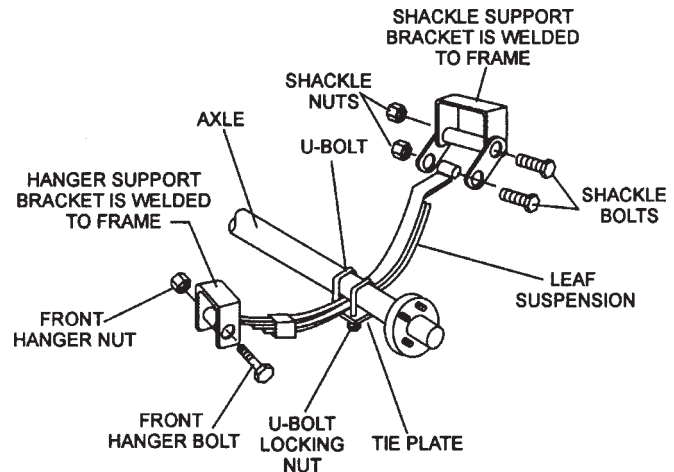

Figure 59. Major Suspension Components
12. **Lug Nuts** - Used to secure the wheel to the wheel hub. Always use a torque wrench to tighten down the lug nuts. See Table 16 and Figure 59 for lug nut tightening and sequence.
The **leaf suspension** springs and associated components (Figure 59) should be visually inspected every 6,000 miles for signs of excessive wear, elongation of bolt holes, and loosening of fasteners. Replace all damaged parts (suspension) immediately. Torqued suspension components as detailed in Table 17.